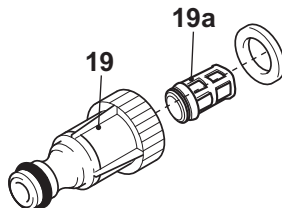

Fig. 25
- > Unscrew and remove the water inlet hose adaptor (19) from the water inlet (14).
- > Disassemble the water inlet hose adaptor (19) (Fig. 25).